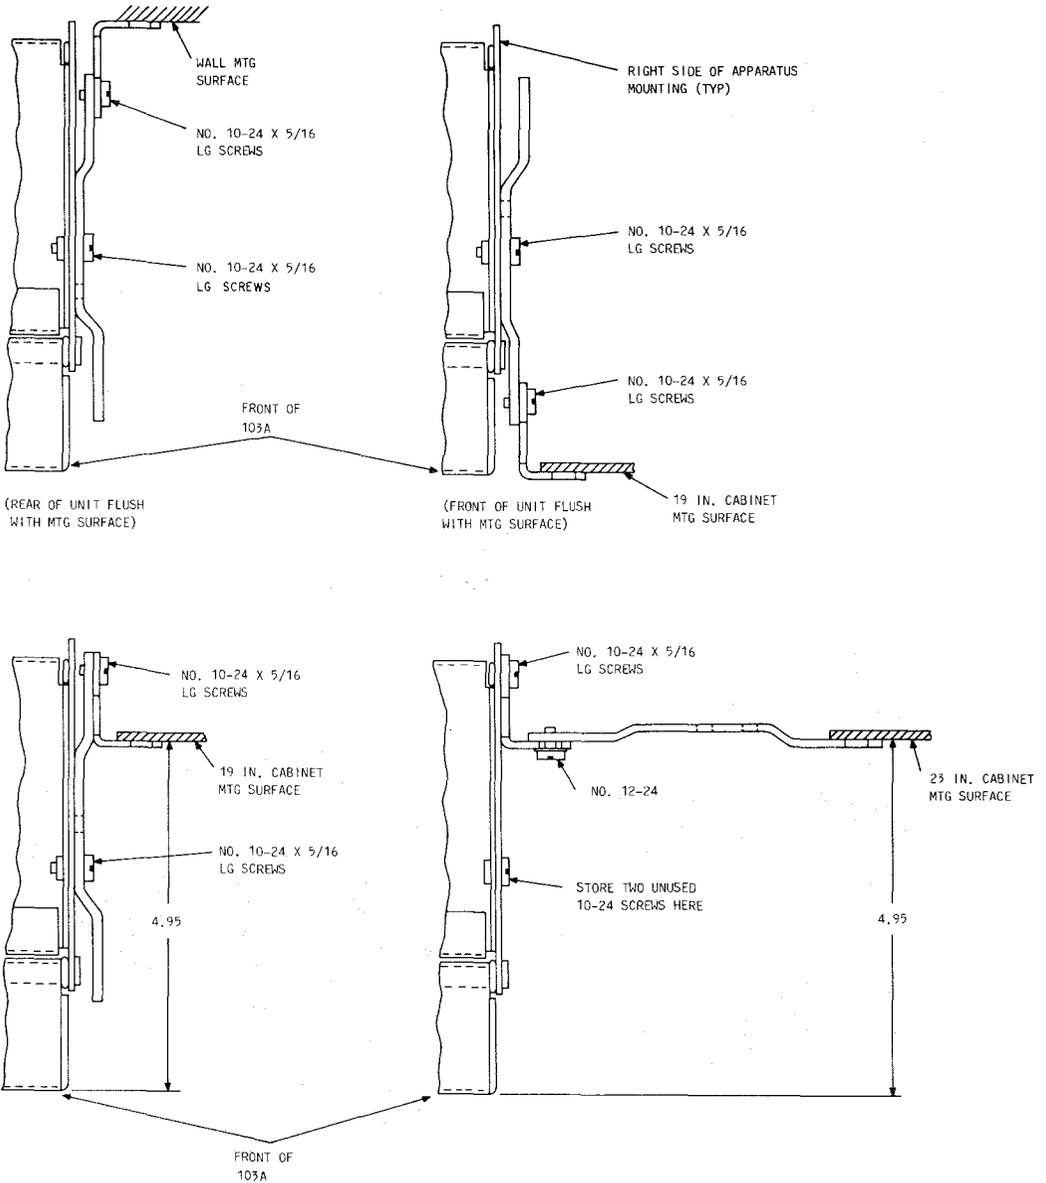

Fig. 16—103A Apparatus Mounting Brackets
3.08 The 103A apparatus mounting provides a multiple arrangement for up to sixteen 97A-type and 97B connecting blocks. The 103A apparatus mounting can be mounted in any of the following configurations (Fig. 16).